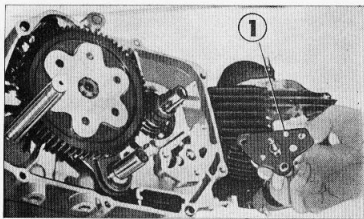

Figure 3. ① Oil pump assembly
5. Loosen the three cross screws attaching the oil pump cover, the oil pump can then be disassembled. (Fig. 3)